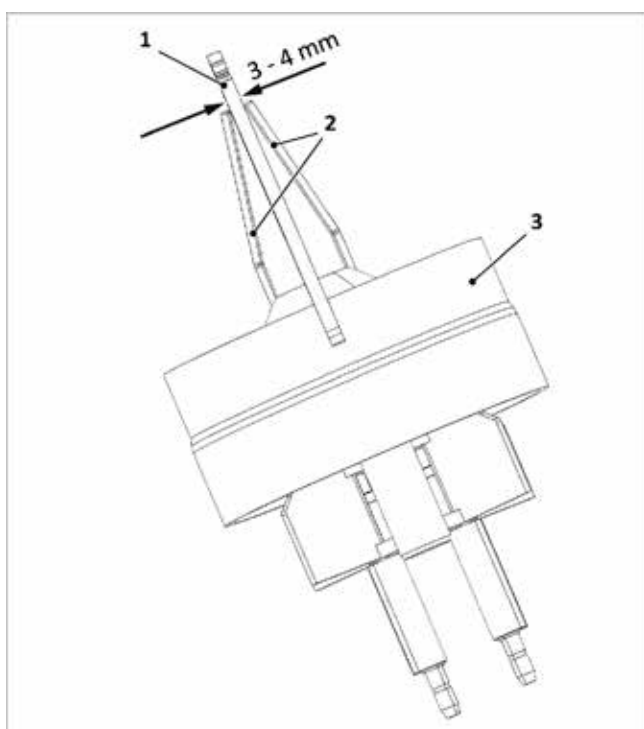

Fig. 119: Checking the ignition electrode gaps
- Check the electrode gaps as shown in → fig. 119 and correct by carefully bending them, if necessary.